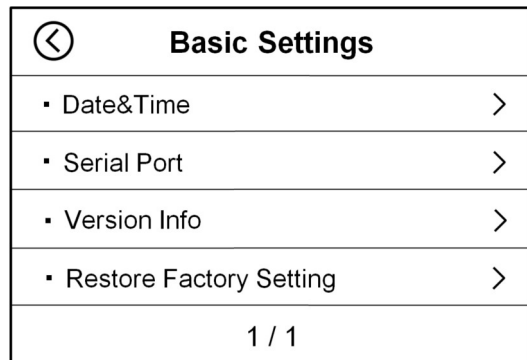
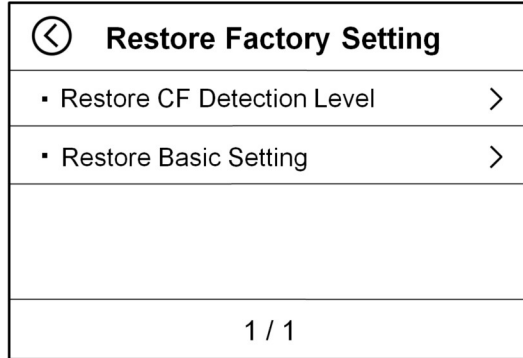

Figure 58
Figure 64
2) In the interface of Figure 58, touch the "Restore Factory Setting" option to enter the Restore Factory Settings interface, as shown in Figure 64 below.